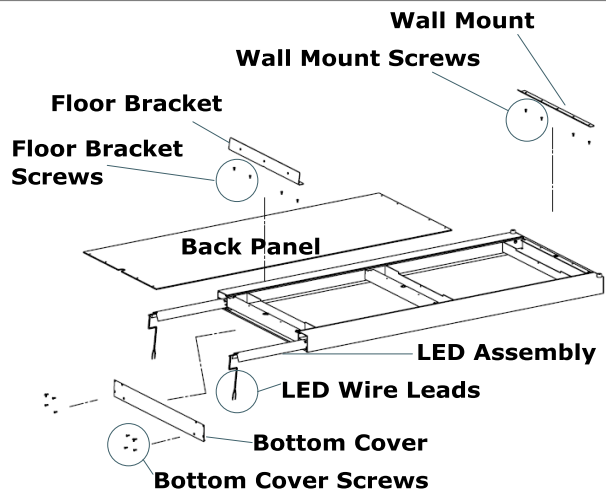

Figure 10
5. To replace LED's, proceed by removing the bottom cover screws, bottom cover, floor bracket screws, floor bracket, wall mount screws and wall mount from the mirror back frame and slide back panel completely out towards the bottom opening and set aside. **See Figure 10.** Now disconnect the LED wire leads off the defective LED assembly by pulling it out toward the bottom.